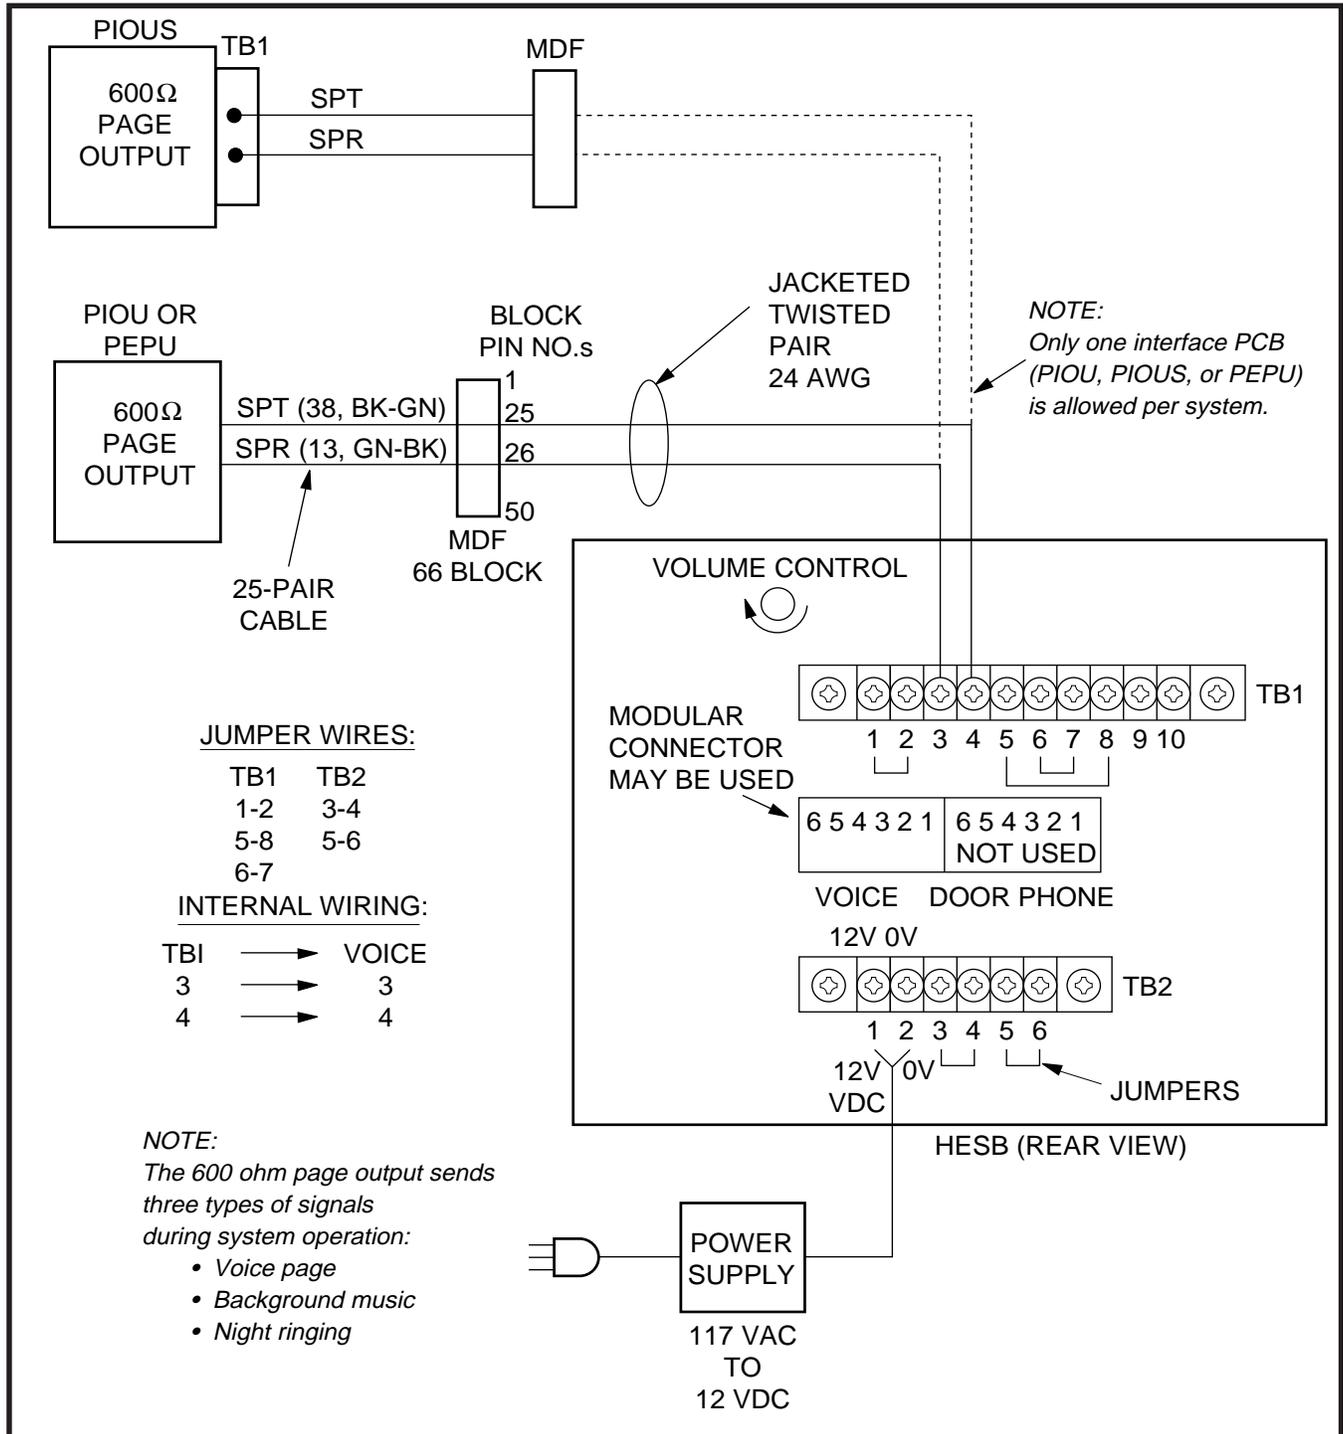

FIGURE 8-14
5.23 Amplified Speaker Installation. Install the HESB Amplified Speaker option in accordance with the following steps (refer to Figure 8-14):